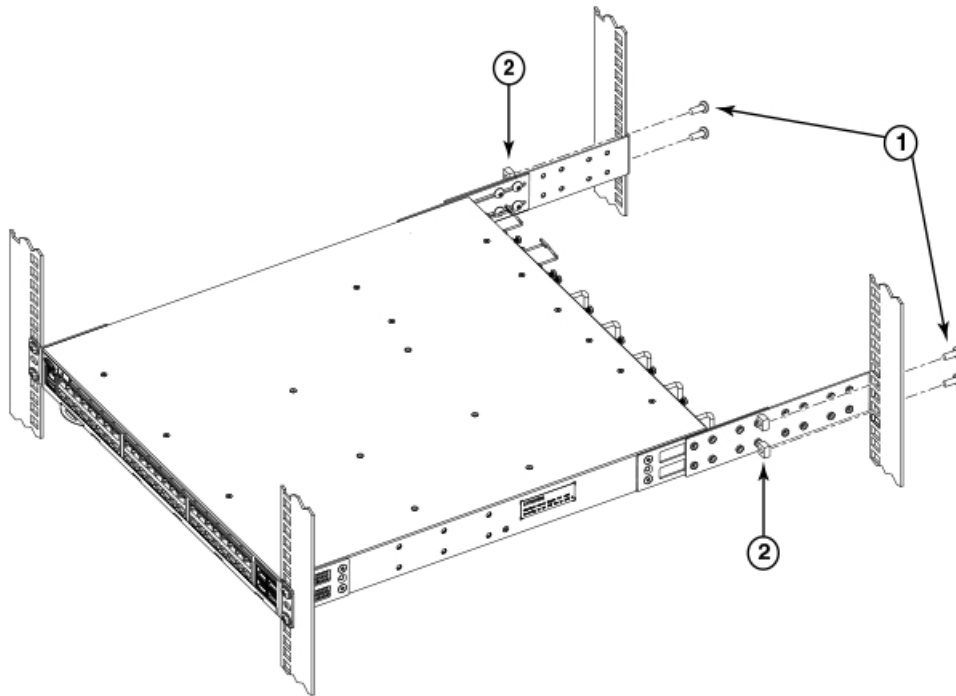

Figure 8. Attaching the rear brackets to the rack posts
1. Attach the right rear bracket to the right rear rack post using two 10-32 x 5/8-in. panhead screws and two retainer nuts, as shown in Figure 8 on page 21. Use the upper and lower holes in the bracket.